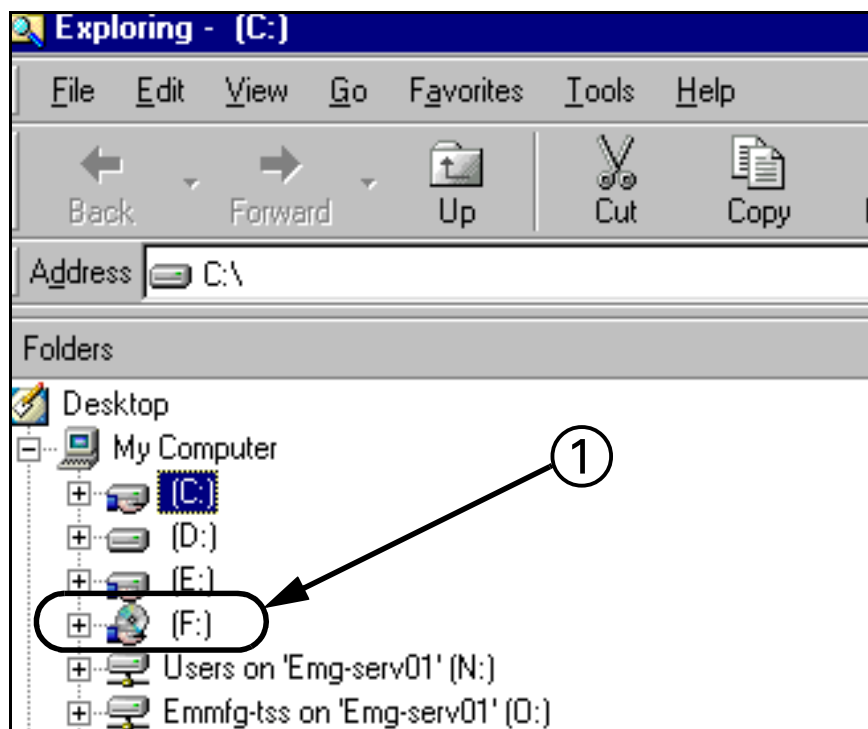

Figure 3-9 Explorer Window
3. Click on *CDROM* icon (① in Figure 3-9) in left pane of “Explorer” window.